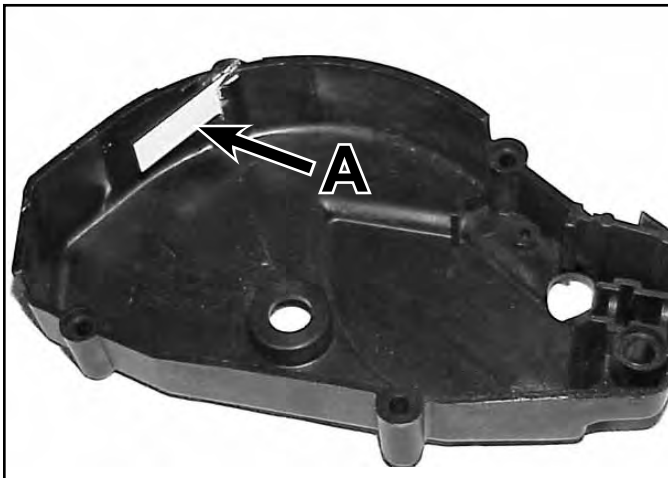

Fig 192
- Assemble the right control housing by installing the leaf spring and pin to retain the leaf spring (Fig. 192).